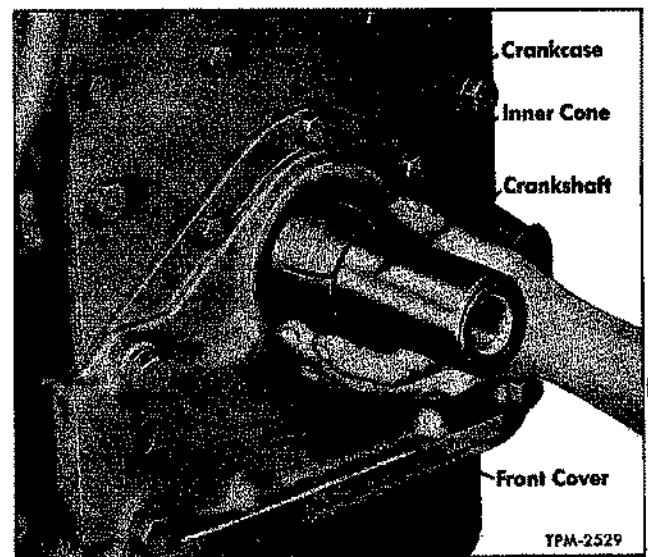

Figure 33—Installing Oil Seal Spacer (Inner Cone)
2. Replace the spacer or vibration damper inner (rear) cone, on front end of crankshaft next to oil slinger (fig. 33).